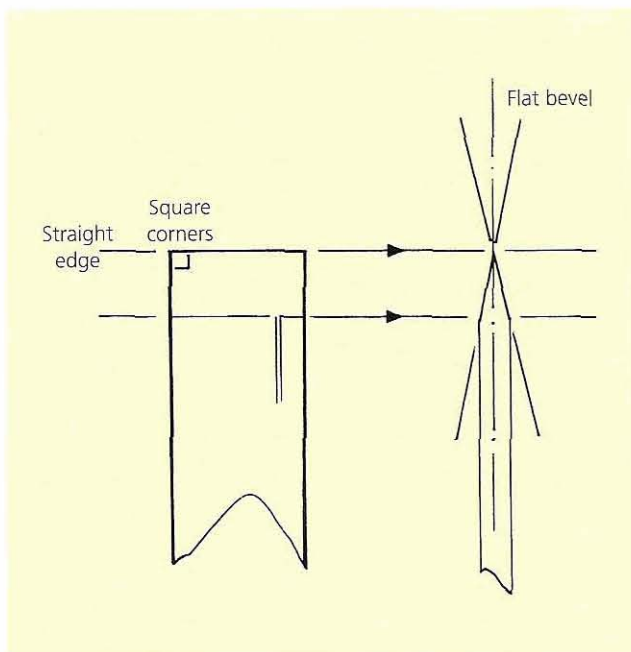

Fig 12.26 Features of a correctly sharpened flat chisel
- 3 Grind the bevel flat to the required angle on both sides of the chisel, with the heel parallel to the cutting edge. The edge should be in the centre of the blade (Fig 12.26). Make the white line an even $\frac{1}{2}$ in (1mm) thick at this stage.